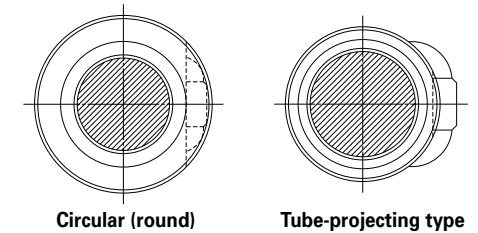

**Fig. 4.1 Flange shape**
**(1) Flange shape**
**Fig. 4.1** shows the available flange shape. Select the appropriate shape according to the nut installation condition. (**Fig. 4.2**)